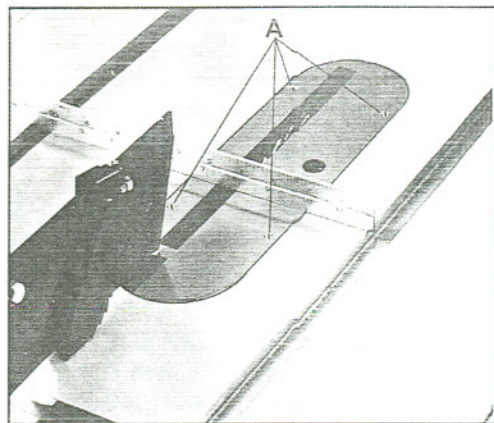

Fig. 18
- Adjust the table insert flush with the table by turning four leveling screws (A, Fig. 18) and using a straight edge.